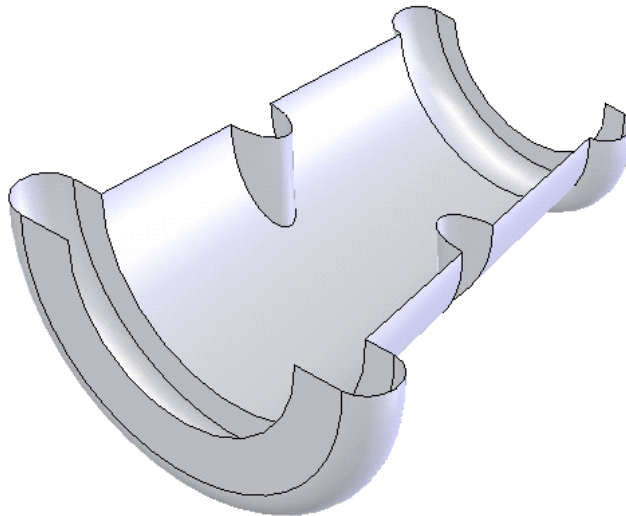

Figure 15-103 Model after trimming the surfaces
5. Choose the **OK** button from the **Trim Surface PropertyManager**. The model after trimming the base surface is displayed in Figure 15-103.